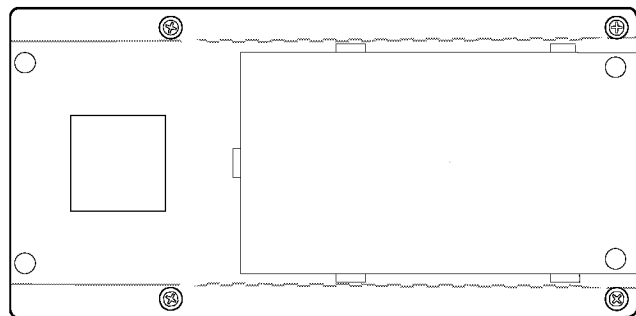
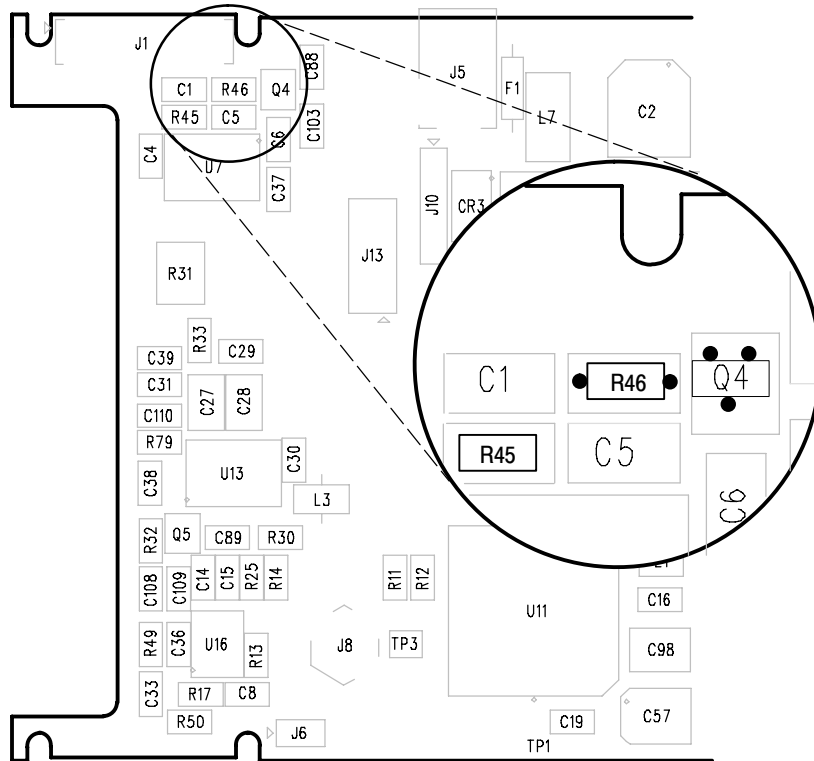
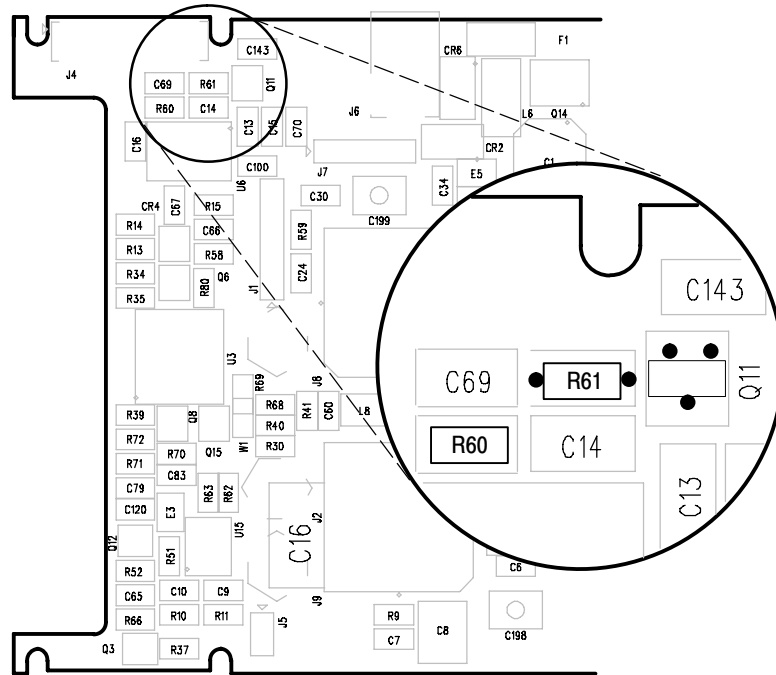

Figure 1: Cover attaching screws
Figure 3: Partial Main circuit board (TSG601) showing location of changed parts
Figure 5: Partial Main circuit board (SDA601) showing location of changed parts
1. Remove the four screws holding the back cover to the front cover. Refer to Figure 1.
- To use your existing LCD module with a new circuit board, you must select the correct resistors to match the LCD module. Select the resistors according to the manufacturer's part number on the LCD module (Figure 1), not the serial number of your instrument. Refer to Figures 3 and 4 for the locations of the resistors on the circuit board.
1. Replace R45 with the 15 k Ω resistor. Refer to Figure 3 for component locations.
- To use your existing LCD module with a new circuit board, you must select the correct resistors to match the LCD module. Select the resistors according to the manufacturer's part number on the LCD module (Figure 1), not the serial number of your instrument. Refer to Figures 5 and 6 for the locations of the resistors on the circuit board.
1. Replace R60 with the 15 k Ω resistor. Refer to Figure 5 for component locations.